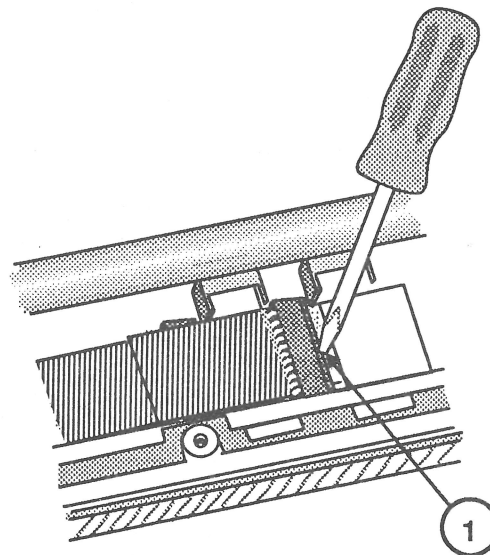

FIGURE 47
4. Place the flatblade screwdriver in the slot of the flexible relay PCB connector (Figure 47, #1). Gently rotate the screwdriver in either direction until the sliding portion moves away from the rest of the connector. Slide the cable from the connector.